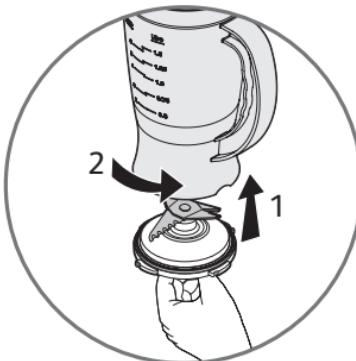

fig.2
- Place the assembly (**c1+c2**) on the base of the jug (**c3**). Lock it by rotating the blade unit through a quarter turn in the anticlockwise direction. (**Figure 2**).